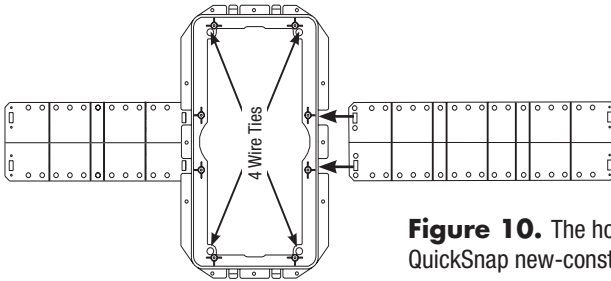

Figure 10. The hole-saving brackets include QuickSnap new-construction wings.
1. Attach the QuickSnap™ new-construction wings to the bracket by snapping them into the bracket sides, as shown in **Figure 10**. If the length will interfere with corner or eaves, shorten the wings by breaking them along the scored lines.